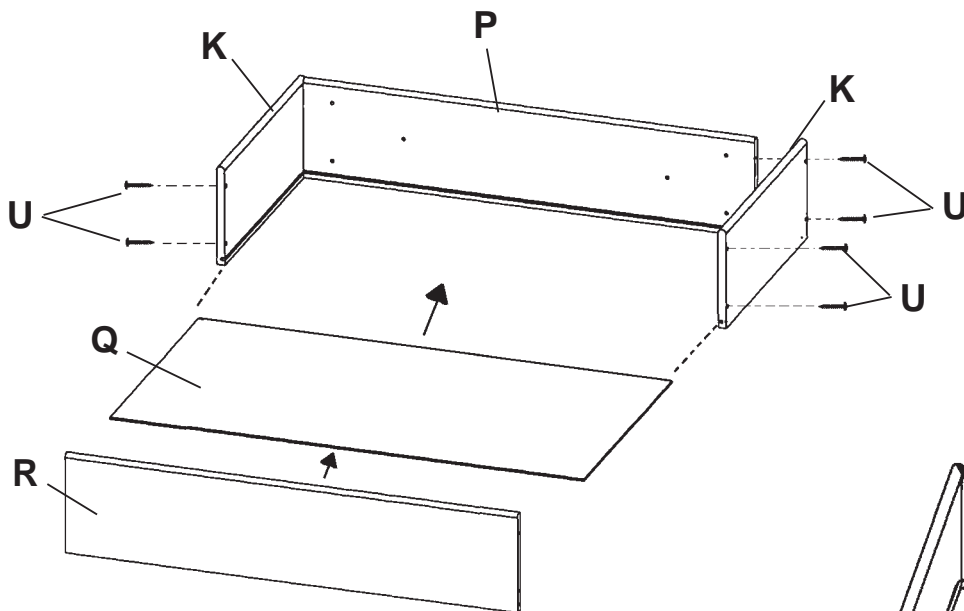

FIG. 9A
- 9)** Attach two Drawer Sides (K) to the Drawer False Front (P) with #8x1¼" Black Screws (U) through the pre-drilled holes in the sides. The grooves for the Drawer Bottom must line up. Slide the Drawer Bottom (Q) into the grooves. Attach the Drawer End (R) to the Sides in the same manner. See FIGURE 9A. Repeat the above steps for the other Drawer.